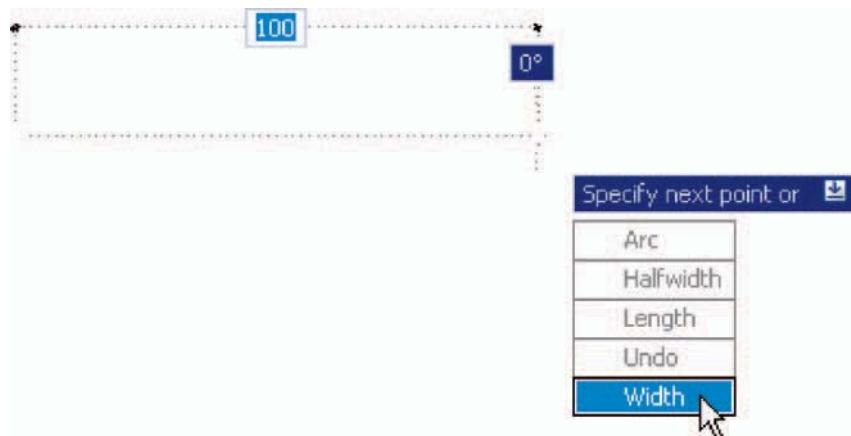

Fig. 3.27 Dynamic Input – first example – **Polyline** – *click Width* in the pop-up menu
3. Move the cursor and press the **down** key of the keyboard. A pop-up menu appears from which a prompt selection can be made. In the menu *click Width* (Fig. 3.27).